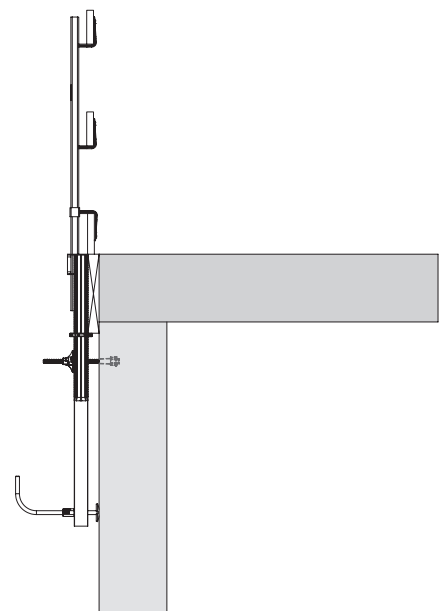

Fig. A3.06
- Concrete the slab and fit the toe board. (Fig. A3.06)